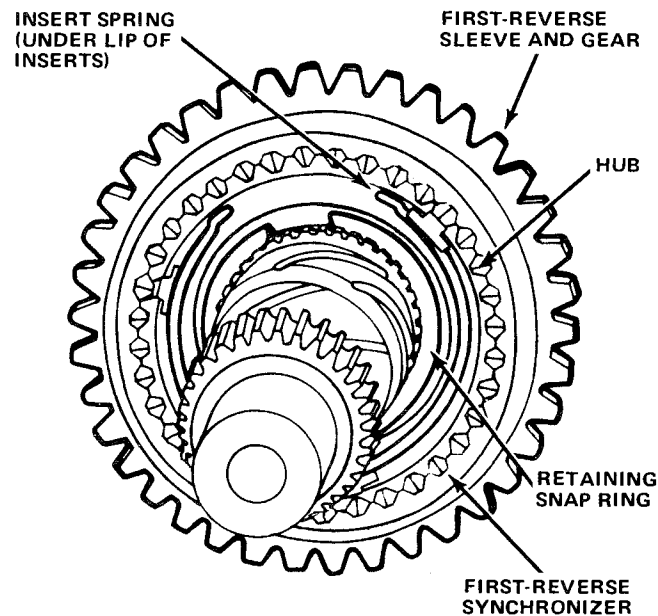

Fig. 2B-10 Snap Ring and Insert Spring Position in First-Reverse Hub
(13) Coat bore and blocking ring surface of first gear with transmission lubricant and place first gear blocking ring on tapered surface of gear.
(14) Install first gear on output shaft. Rotate gear until notches in blocking ring engage inserts in first-reverse hub, then install tabbed thrust washer (sharp edge facing out) and retaining snap ring on main shaft (fig. 2B-11).
(15) Coat bore and blocking ring surface of second gear with transmission lubricant and place second gear blocking ring on tapered surface of gear.